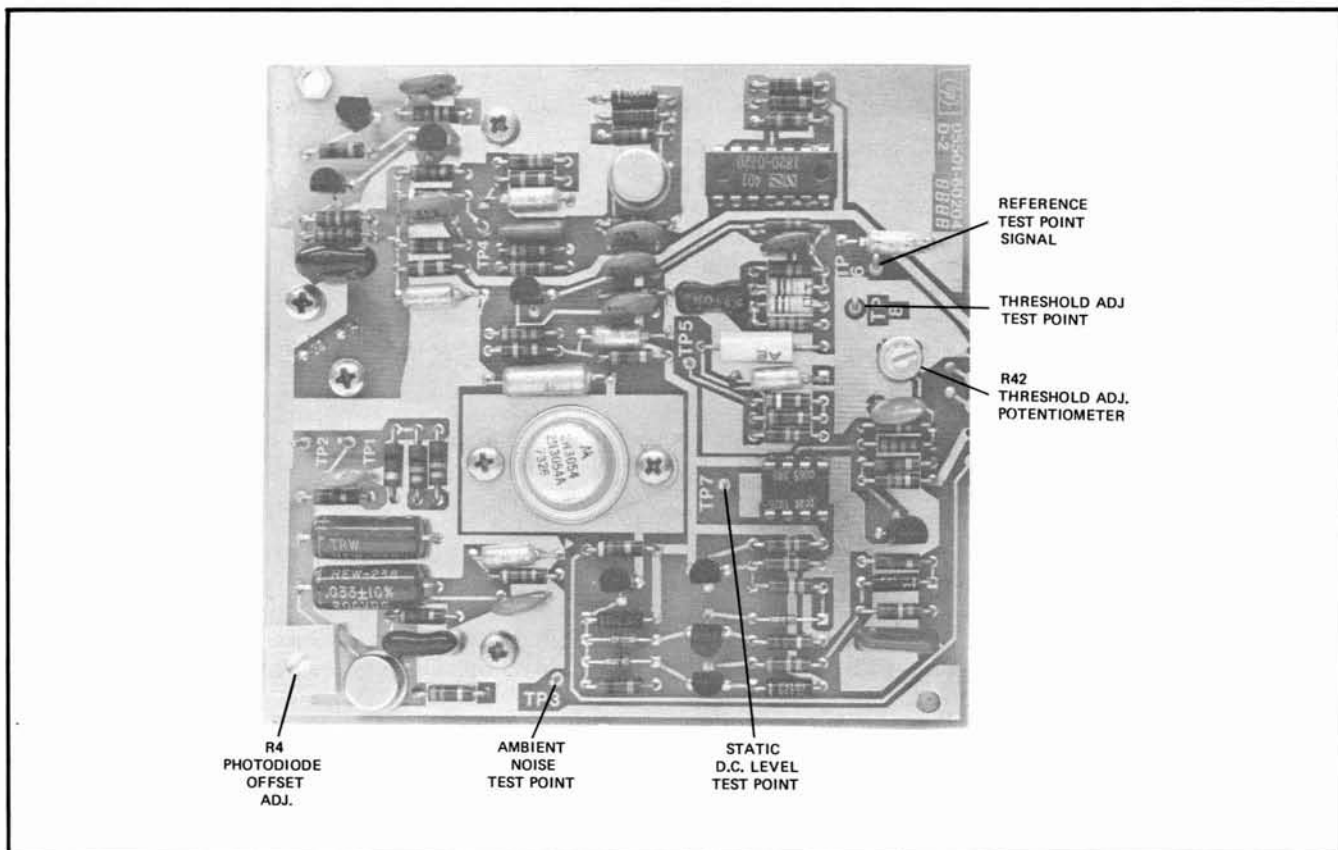

Figure 4-4. A5 Lock Reference Board Adjustment Locations
4-23. Make the adjustment according to the following procedure (refer to Figure 4-4):
- f. Monitor A5TP8 with a DVM or oscilloscope, and adjust the threshold potentiometer, A5R42, for a dc voltage equal to twice the value recorded in step e (see Figure 4-4).
4-25. Make the adjustment according to the following procedure (refer to Figure 4-4):